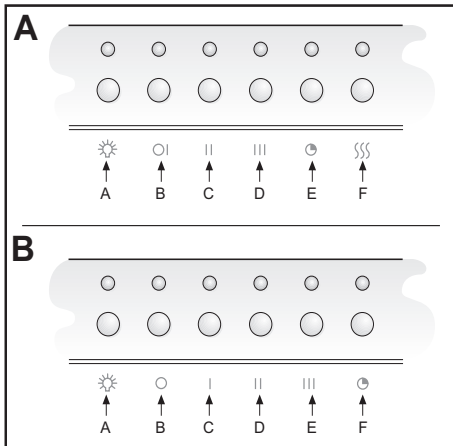

Fig.22
• **COMANDO: ELETTRONICA (Fig.22 A)**